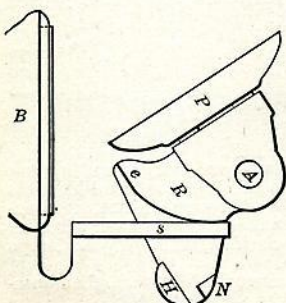
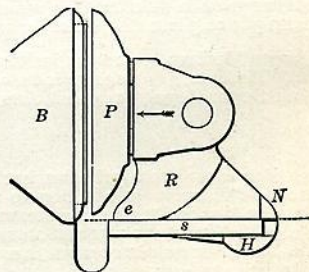

Fig. 2.
Fig. 3.
The platen movement in relation to the bed is illustrated in Figs. 2 and 3 (sectional drawings from the inside).
Fig. 2 shows the platen open at the feeding position, supported by the rockers (R) on the slideways (s). The movement is controlled by the draw-bars, which connect with a steel shaft (A) passing through the platen bridge. As the draw-bars pull the platen toward the bed it rocks forward until the flattened toes (e) of the rockers rest on the slideways (s), as shown in Fig. 3.